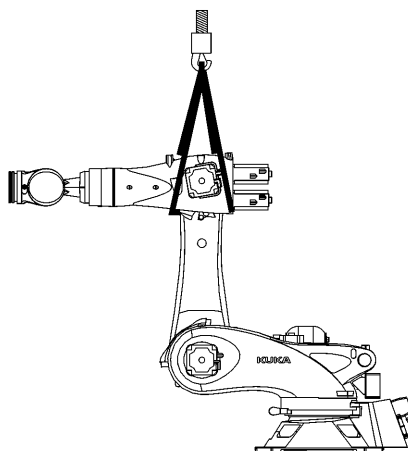

Fig. 10-1: Securing the link arm
1. Move the link arm into a vertical position and secure it using a crane (>>> Fig. 10-1).